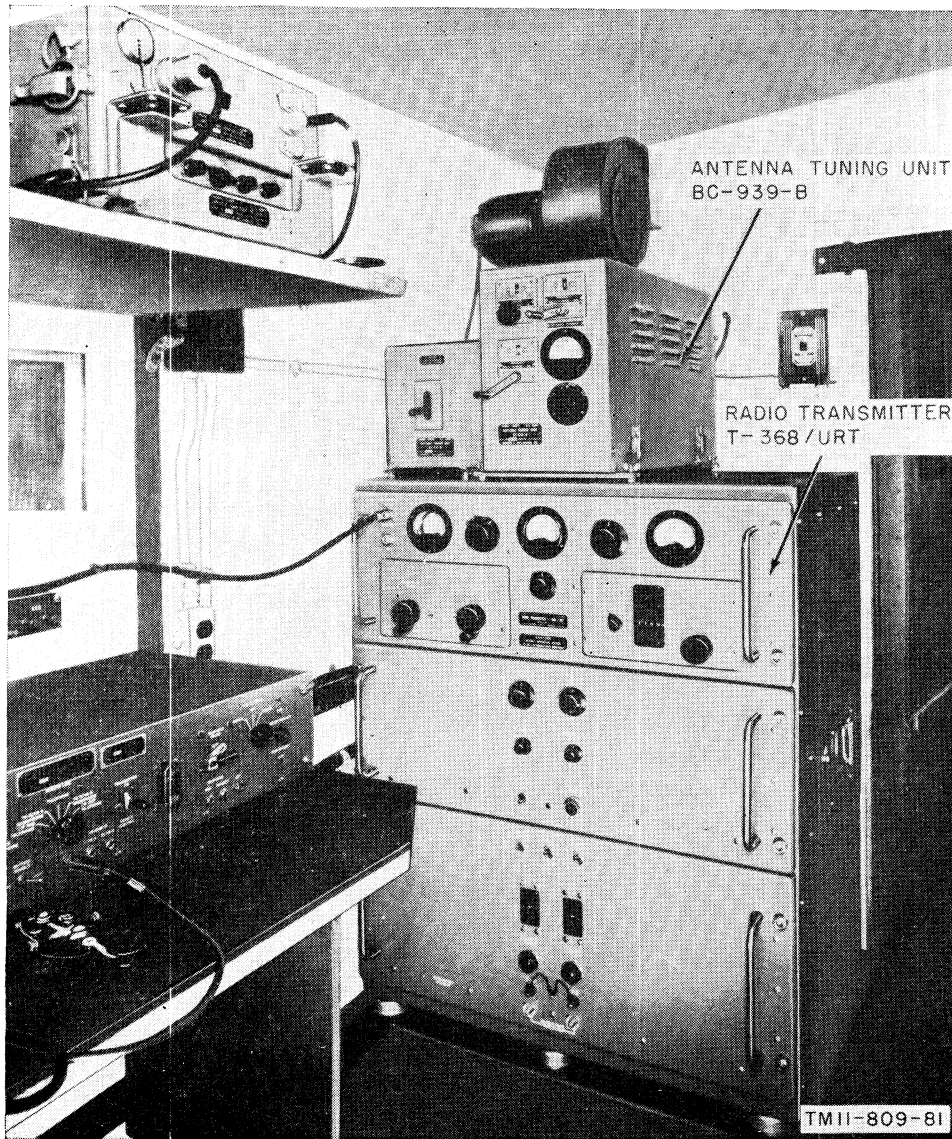
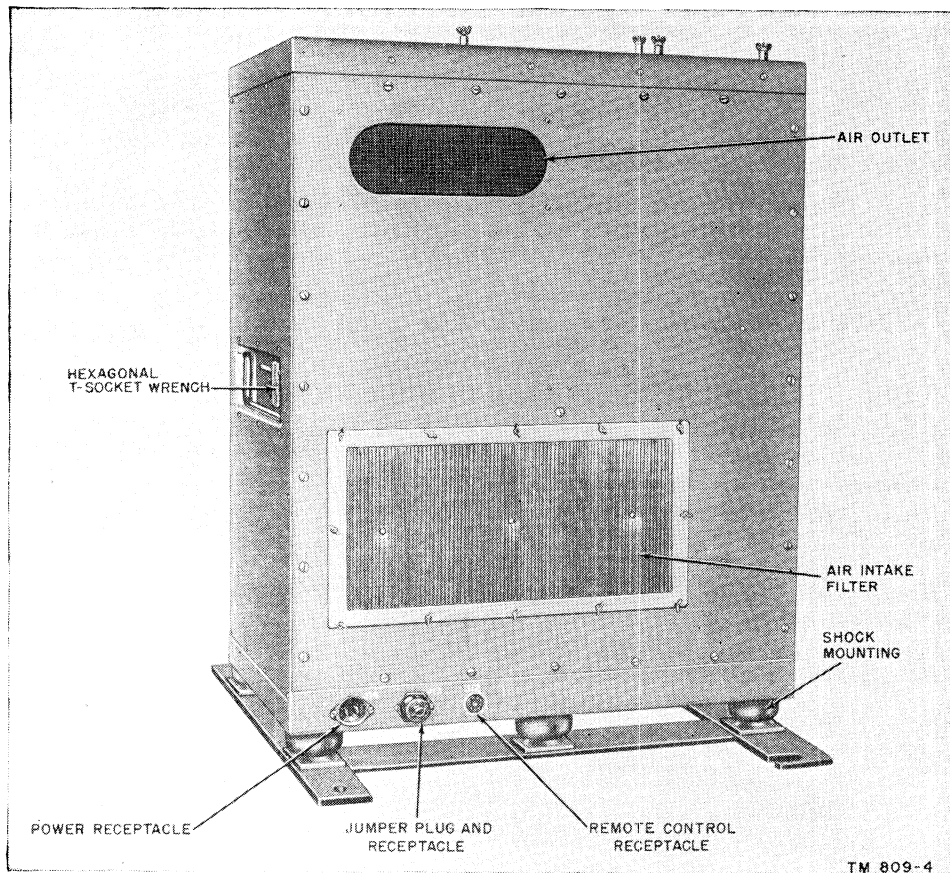
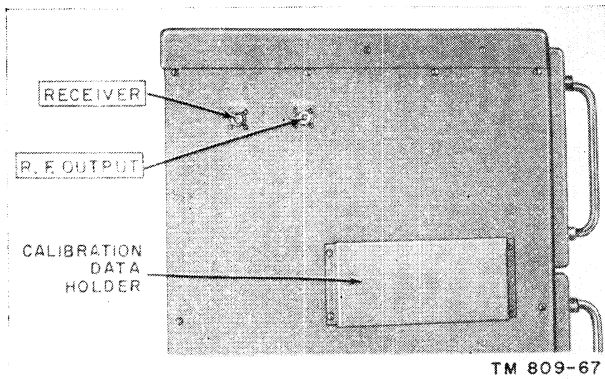

Figure 1. Radio Transmitter T-368/URT and Antenna Tuning Unit BC-939-B.
Figure 4. Radio Transmitter T-368/URT, rear view.
Figure 5. Housing, left side.
(fig. 1)
e. The housing (fig. 80) contains all the interlock switches of the equipment. Three receptacles are located on the rear of the housing (fig. 4). The power receptacle permits the application of ac power, the second receptacle J13 seats the jumper plug to permit high-voltage operation, and the third provides means for remote control operation. Two coaxial receptacles (fig. 5) located on the left side of the housing connect the transmitting antenna to the transmitter and to a receiver (when used) through an antenna changeover relay. The relay assembly, mounted on the upper left of the inside of the housing (fig. 80) contains two separate relays which are used for antenna changeover. A blower, located on the back panel, improves the ventilation of the equipment; air filters (fig. 4) clean the incoming air. A holder (fig. 5), mounted on the left side, stores the calibration charts used with the transmitter. Carrying handles for the transmitter are provided, one on each side; when not in use, these handles can be folded into the sides of the housing. A hexagonal T-socket wrench (fig. 4), provided for loosening and tightening the panel captive bolts, is mounted in the recess for the right side handle. At the top of the housing are two sets of four threaded studs with wing nuts for mounting a switching unit (used in Radio Set AN/GLQ-2) and an antenna tuning unit (fig. 1). A THERMAL RESET button on the top of the upper front section of the housing (fig. 80) permits manual resetting of the thermostat, which is mounted on the inside top of the housing. The housing base is provided with shock mounts (fig. 4); the equipment is secured to the surface on which it is resting by bolts (not
of the transmitter (fig. 5) and the input terminals located on the side of the tuning unit (fig. 87).